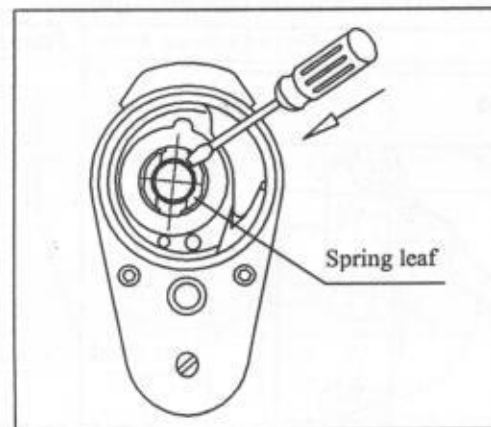

Fig 7
- Flating the hem of the spring leaf with screwdriver to reduce the bobbin thread tension.(Fig 7)